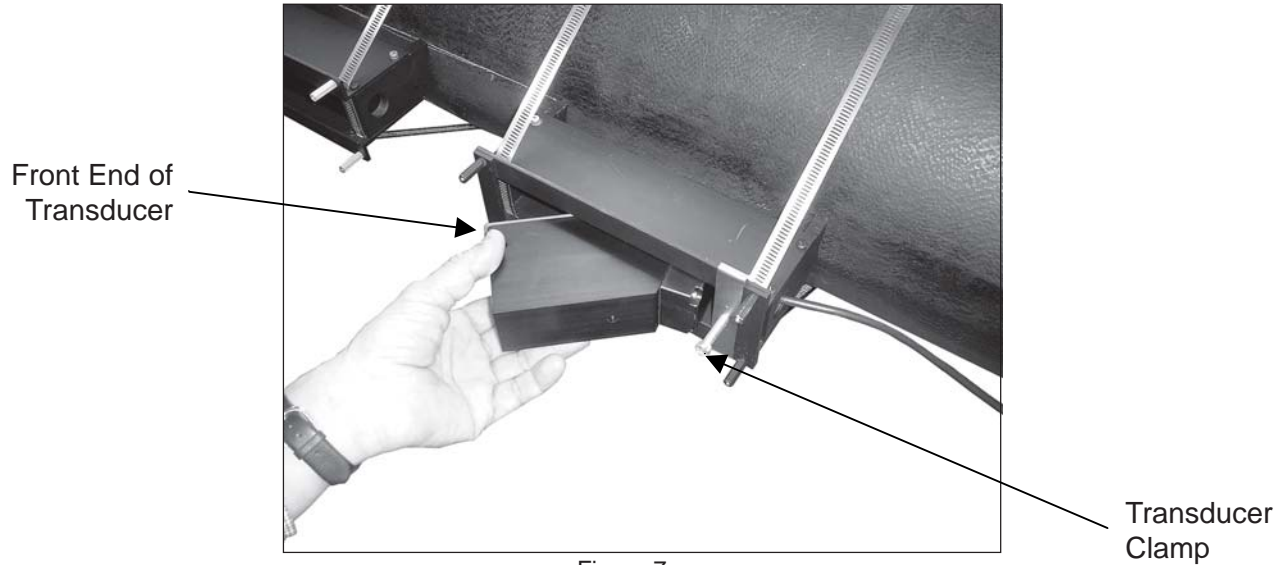

Figure 7
- Install transducer back end first and mate with pipe (Figure 7). Butt front of transducer against track assembly and secure by tightening the transducer clamp.